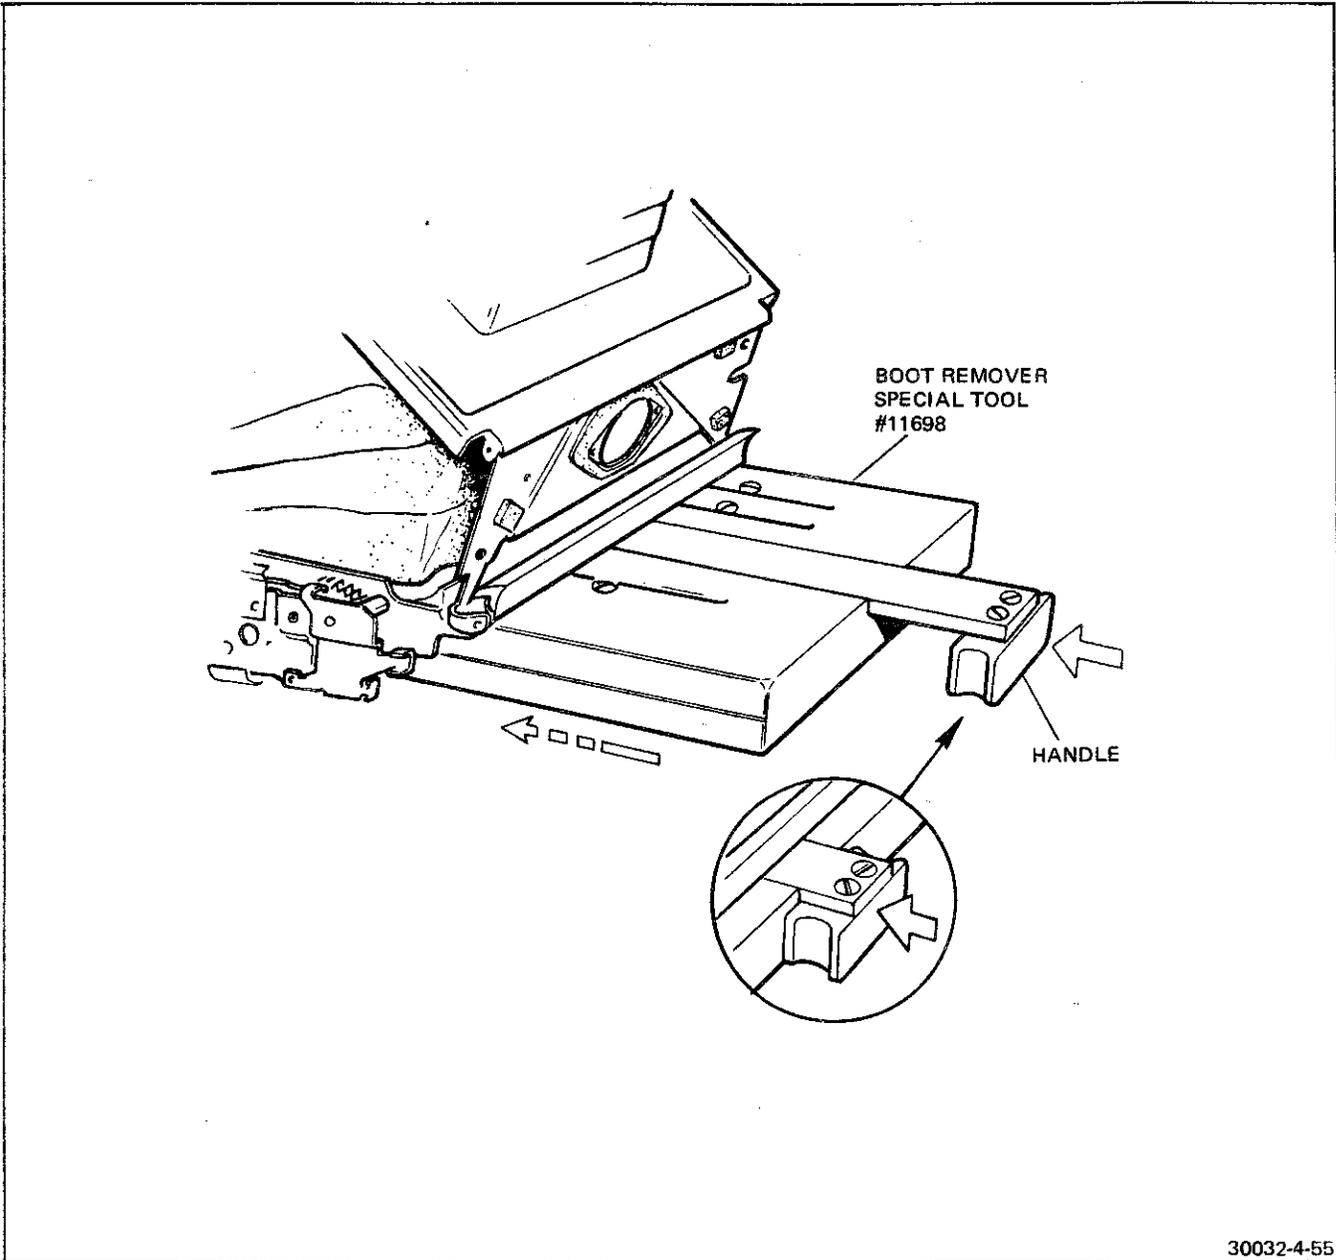

FIGURE 4-55 BOOT REMOVAL TOOL
10. Referring to Figure 4-55, note the orientation of the handle — this must be as shown to prevent damage to the tool and/or the camera. Insert the Special Tool #11698 into the film compartment of the camera. See that the plunger handle is out away from the body of the tool. Be sure the tool is fully seated in the film compartment.